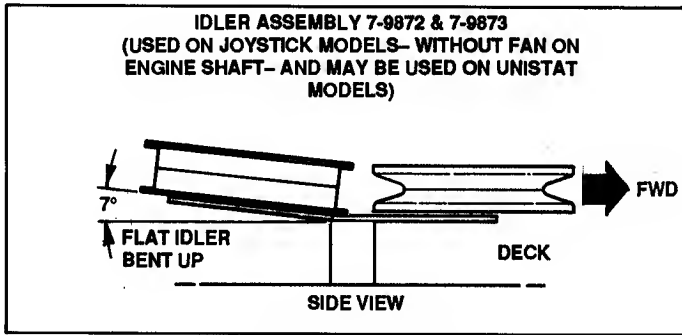

FIGURE 11.18
- (b) The 1990 thru early 1991 double idler weldments MUST BE ANGLED UP SEVEN DEGREES (7°) in order for the deck drive belt to function properly. See Figure 11.18.